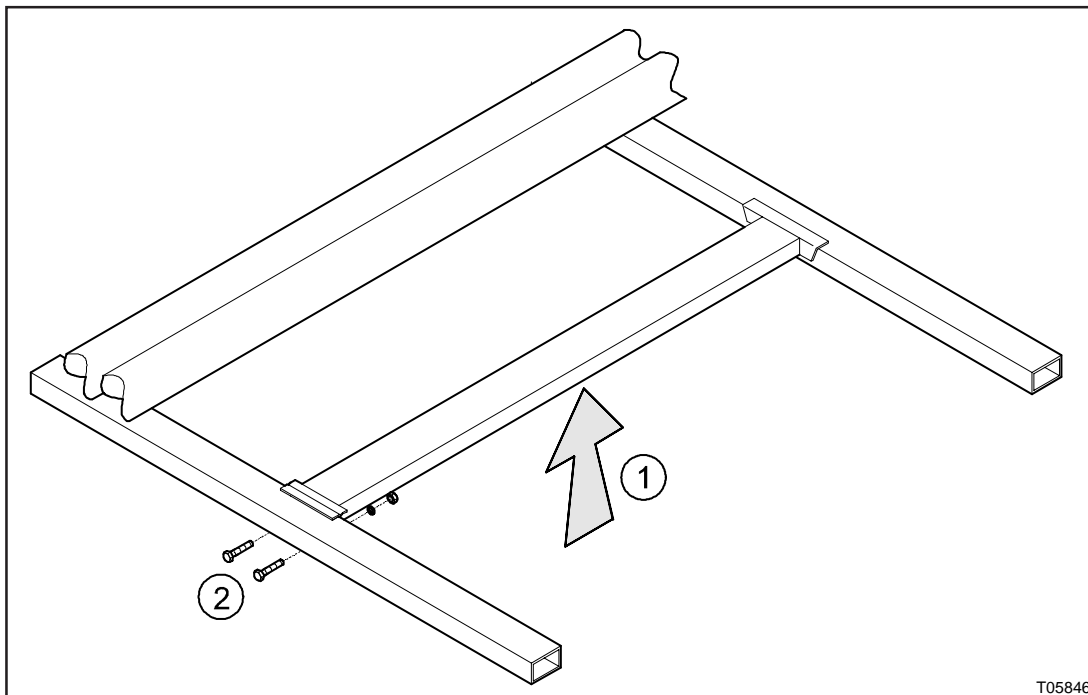

Figure 10 : Front axle frame reinforcement brace installation, sequence II
3. Push the brace upwards, until the holes in the brace cross-bracket match the holes in the L-shaped mounting bracket (see 1, Figure 10). Fit the two M6 bolts, nuts and washers (see 2, Figure 10). Tighten to a torque of 7 to 11 ft.lbf (9 to 15 Nm).